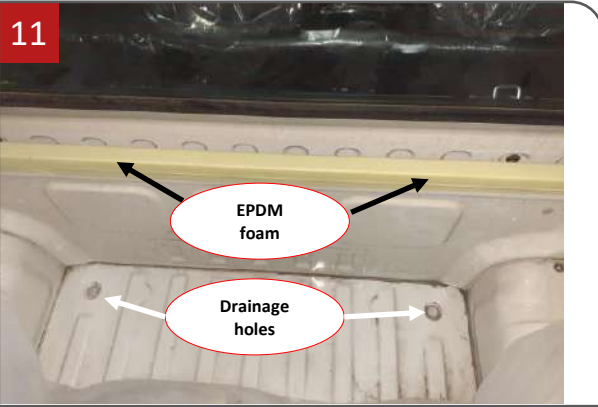

Figure 11
- Feed the clear rubber tubes with supplied grommets through the drilled holes to allow for drainage. See **Figure 11** for location of holes in bin.